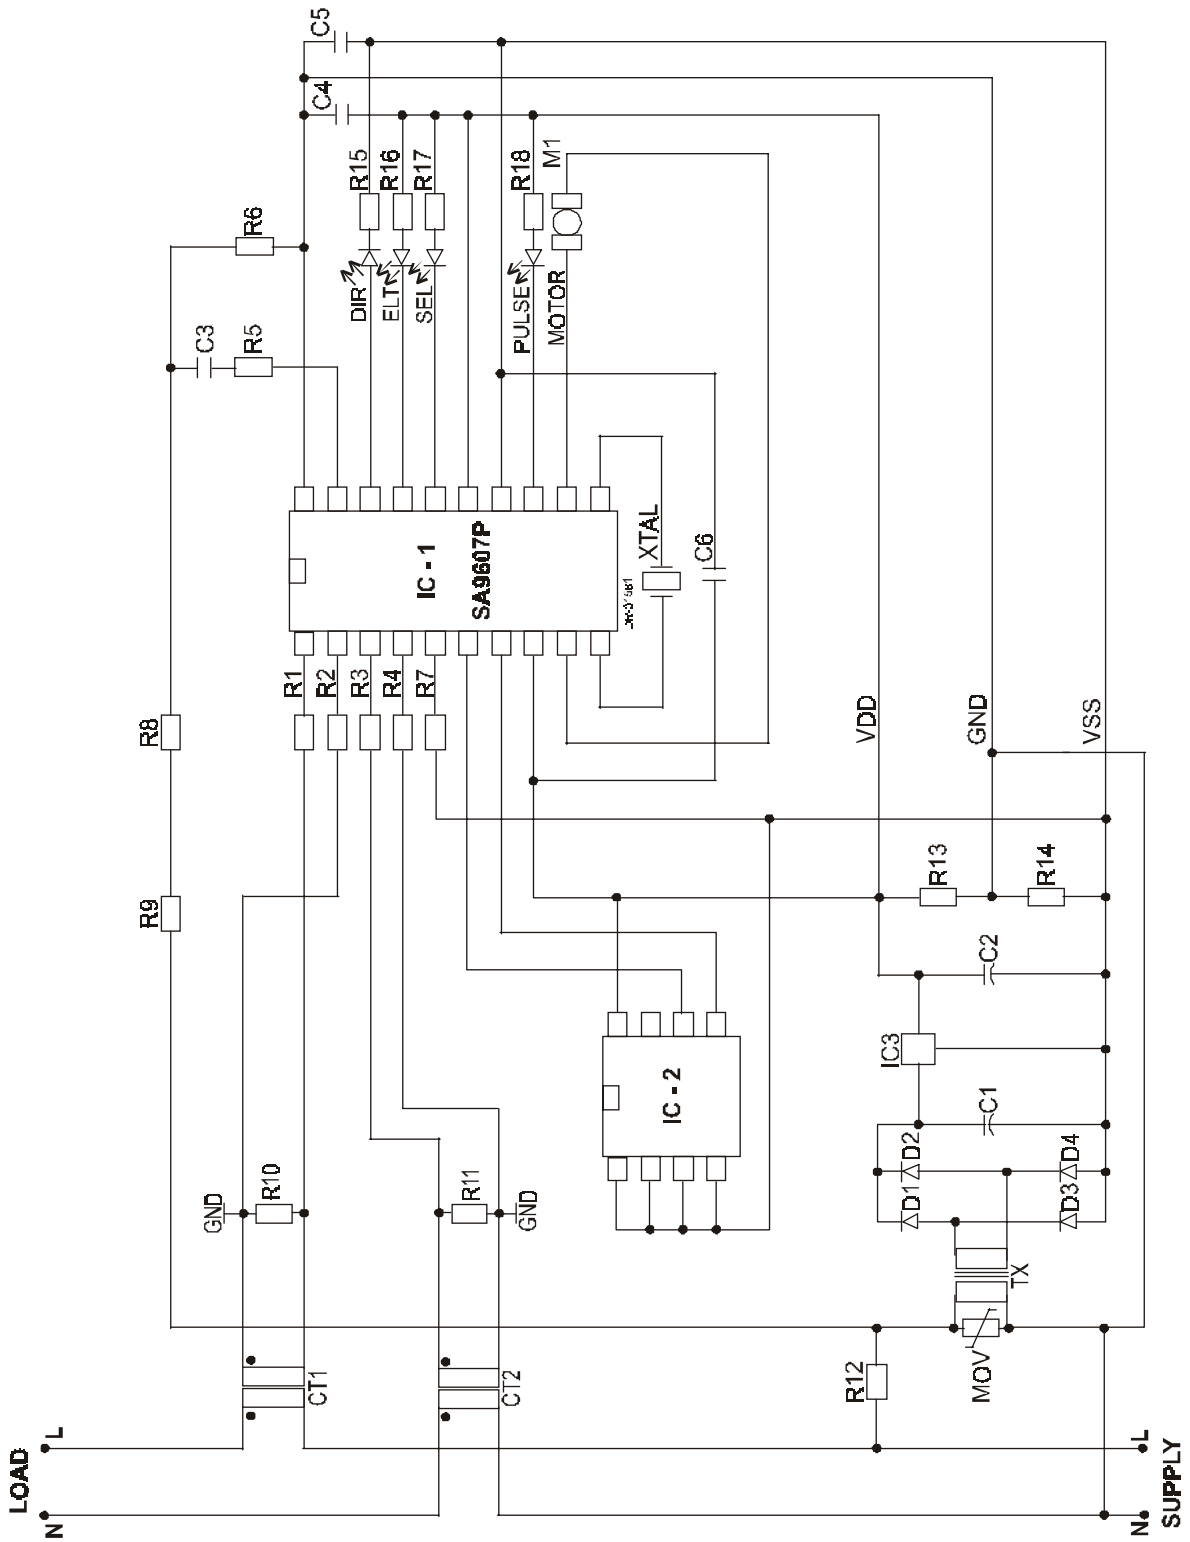

Figure 7: Application Circuit
In Figure 7, the components required for a stand-alone power metering application, is shown. Application modules as well as application notes for the SA9607P and SA9607M Integrated Circuits are available on request.
**Parts List for Application Circuit: Figure 7**